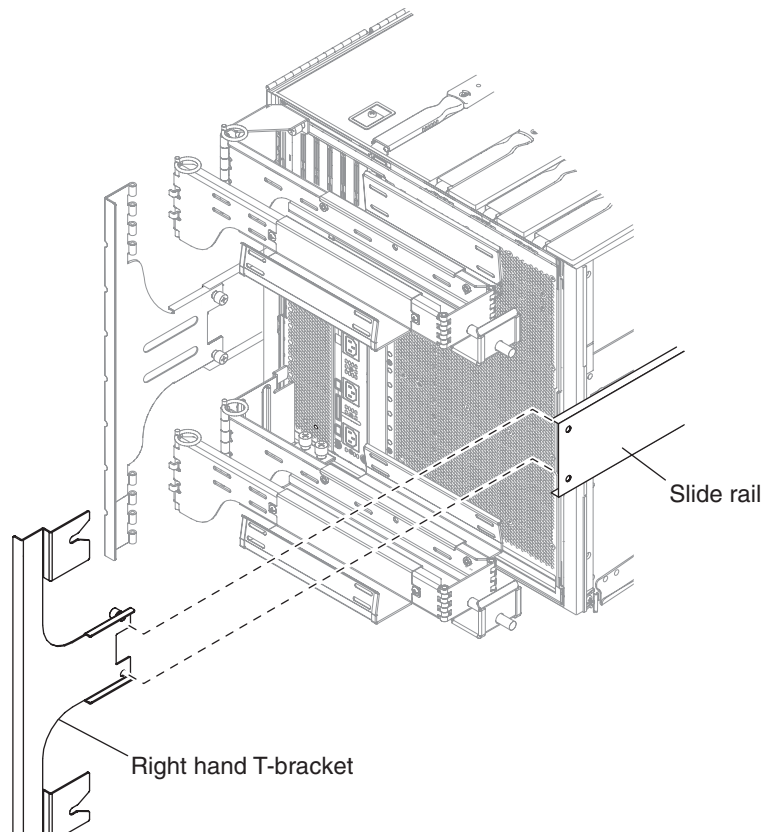

FIGURE 1-22 Attachment of Right-Hand T-Bracket
8. Secure the right hand T-bracket to the right hand slide rail using two captive screws, FIGURE 1-22.